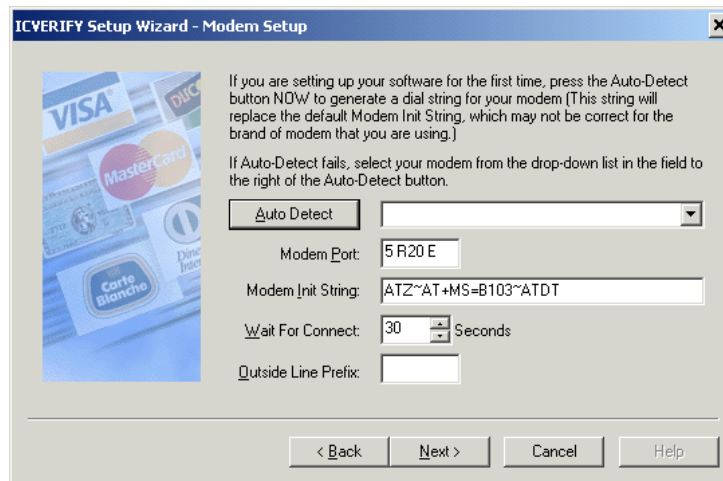

Figure 3.1.5-1: Modem Setup
22. Stop once you reach the "Modem Setup" screen (see **Figure 3.1.5-1** below).